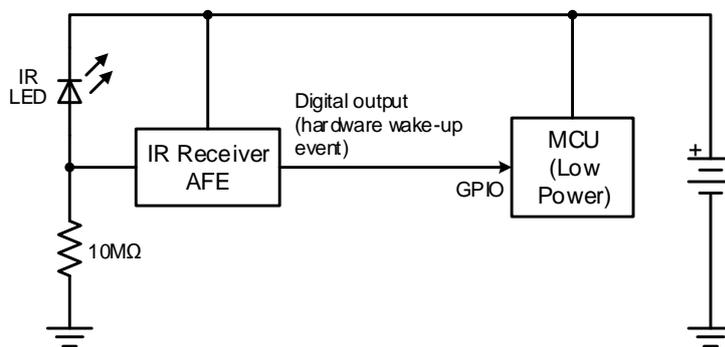

Figure 17. Low-Side Current Sensing Circuit
Infrared (IR) communication is inherently immune to RF interference as long as there is a line-of-sight path between the transmitter and the receiver. It is also one of the lowest cost communication schemes. This makes it a good choice for implementing wireless communications in applications such as utility metering. A common system topology to extend battery life is to use a power efficient IR receiver analog front end (AFE) that is always on and wakes up the host only when there is a valid IR signal detected as shown in Figure 17.
Figure 17 shows the IR receiver system block diagram. The host MCU is normally in the shutdown mode (during which the quiescent current is less than 1 μ A) except when data is being transferred.